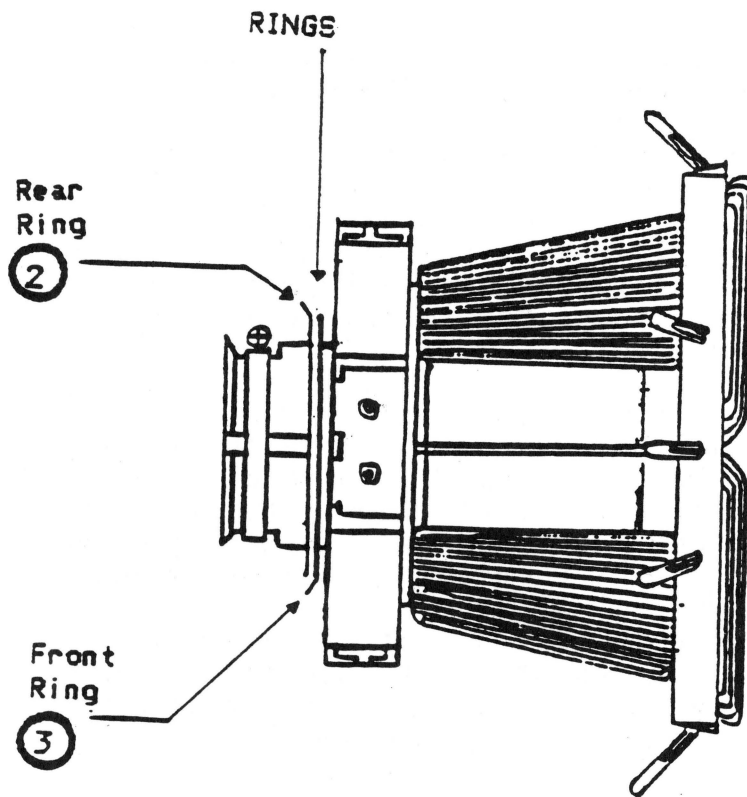

Figure 4
2. Locate the two ferrite metal ring magnets on the rear part of the yoke (see Figure 4).